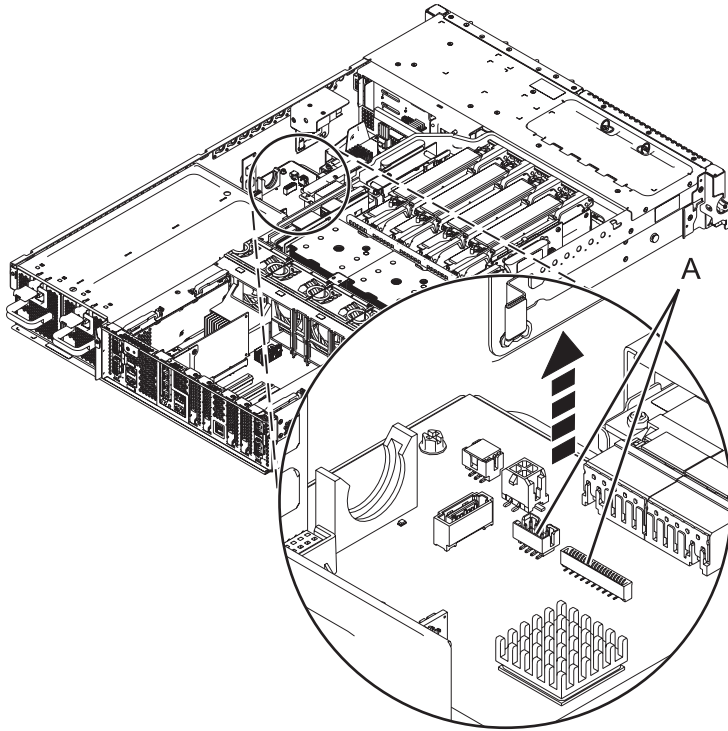

Figure 38. Disconnecting the operator panel cable
- a. Disconnect the operator panel cable (A). See Figure 38 on page 52.